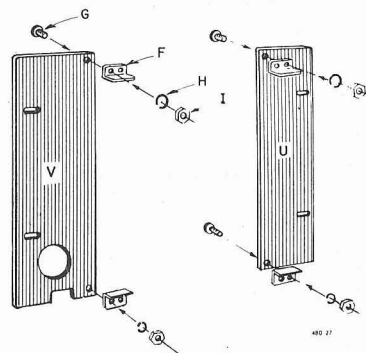

Figure 2-7. Subassembly of rack adaptor plates.
a. Release the two end-frame attaching screws (D) at the left-hand edge of the oscillator.
d. Install clips (F) on panels (U) and (V), using screws (G), lockwashers (H), and nuts (I) supplied (Figure 2-7).